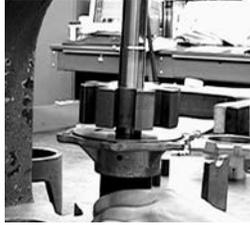

Figure 12
1. Install the shaft rotor assembly by carefully pushing the short end of the shaft rotor assembly through the shaft seal into the endplate. Place in the arbor press with the drive end of the shaft pointed down and press the assembly together (Figure 12). Leave just enough clearance between the rotor and endplate so that rotor can be turned by hand. If it turns too freely, sand a little more off the body end that faces the endplate. You should notice a slight drag, but be able to turn shaft with an adapter on it, by hand. The "slight drag" will wear off after the pump has been used a short time. Installing new rollers, seals, bearings and shafts will not prove entirely satisfactory for volume and pressure unless end clearance is taken up.
2. Remove the assembled portion from the arbor press and invert it on the press table. Then place rollers in the roller slots as close to center of rotor as possible. Place the pump body over rotor and shaft, and carefully ease the end of the shaft past the lips of the seal in pump body (Figure 12). Slowly press the pump body down to fit the endplate (Figure 13).